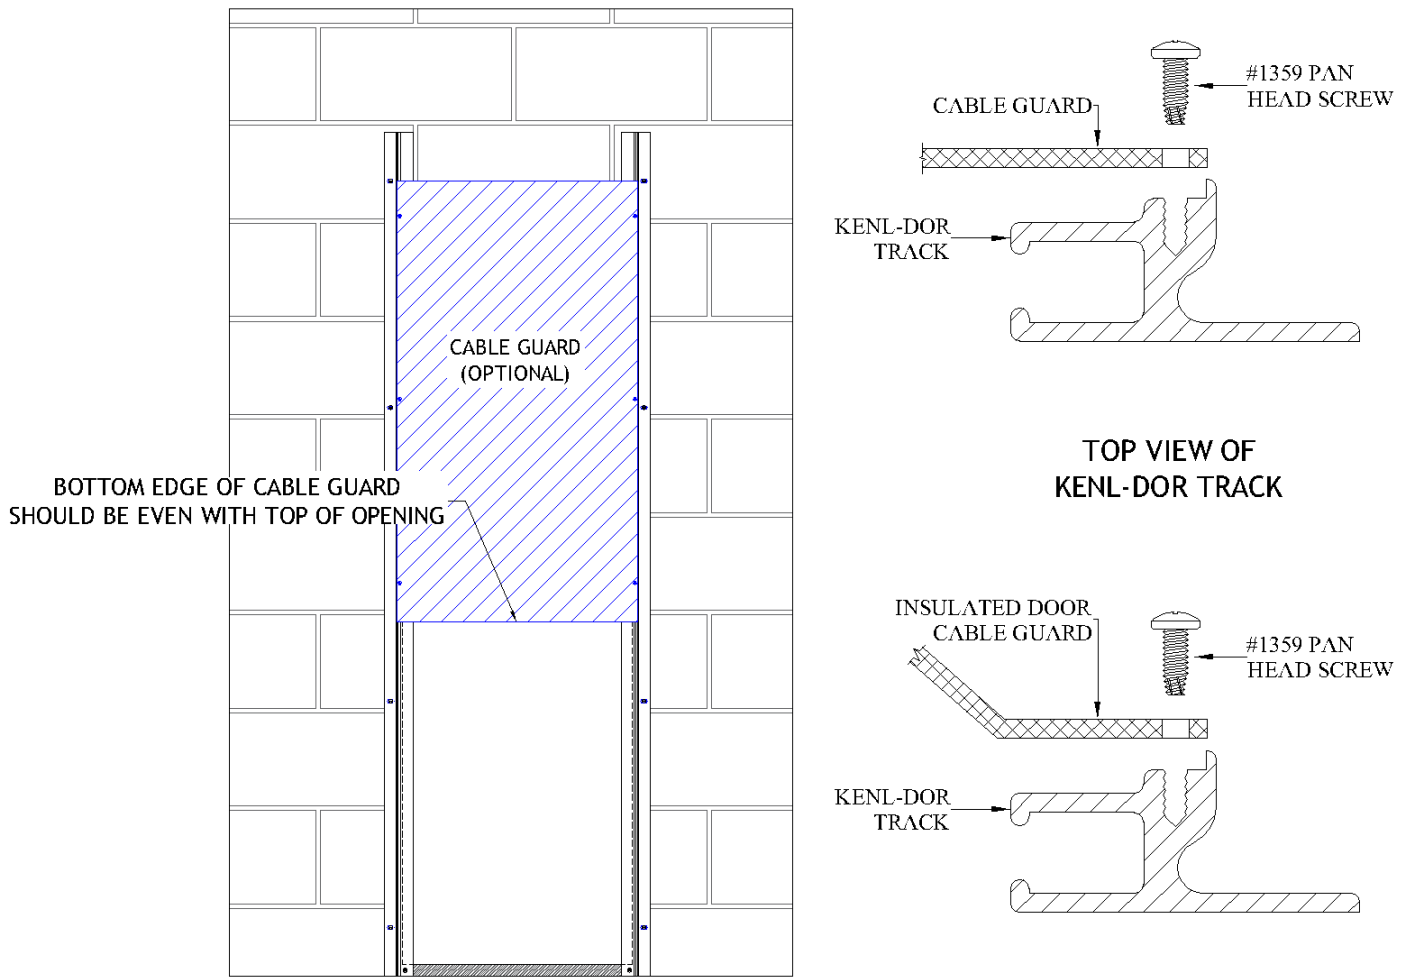

Figure B.3
5. If installing cable guards, place guard between raised flanges on the face of the Kenl-Dor track. Using the pre-drilled holes, pin the cable guard to the track using the #10 x $\frac{3}{8}$ " phillips head screws. See figure B.3 The holes should line up with the channel that runs down the face of the track.